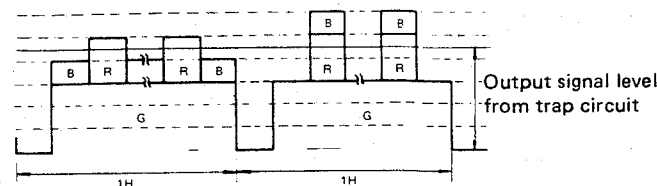

Fig. 11 Detection of Y signal
This signal is sent to the preamplifier, where it is amplified. The amplified signal (H) (see Fig. 12) from preamplifier is sent to the 3.58MHz trap circuit, which passes only the luminance (Y) signal (I) comprising the G signal and the mean value of the modulated R and B signals. The mean value of modulated R and B signals on adjacent scanning lines are equal so that the luminance signal corresponding to two successive lines is also equal (see Fig. 11) due to the characteristics of the trap circuit.